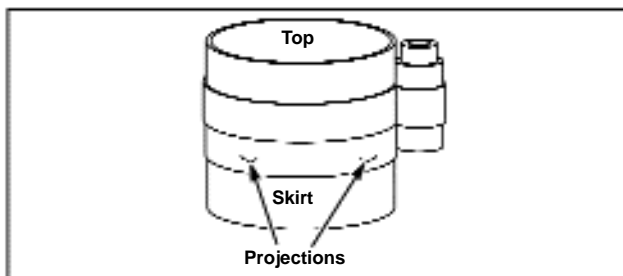

Figure 118 - Ring Compressor
2. Compress rings with Tool #96040-96, Ring Compressor, as shown, Figure 118.